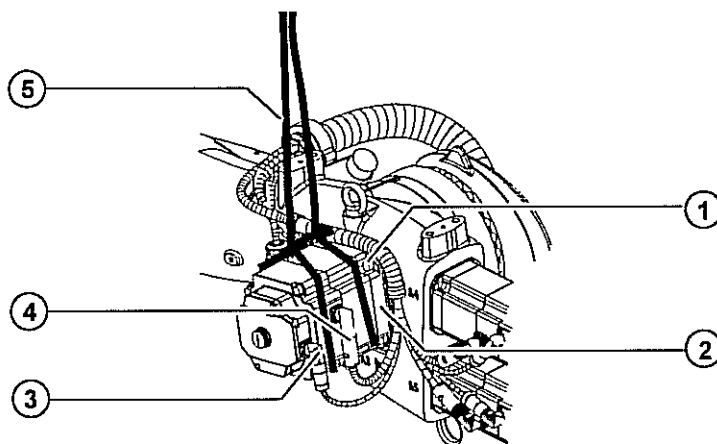

Fig. 12-7: Removing motor A3
3. Release and unplug connectors XM3 and XP3 at the sockets (>>> Fig. 12-7).